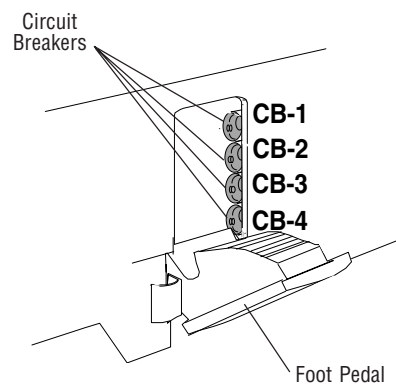

Figure 8-1. Circuit Breakers
1. Lower foot pedal on table base to access circuit breakers (located on right of opening when foot pedal is down). See Figure 8-1.